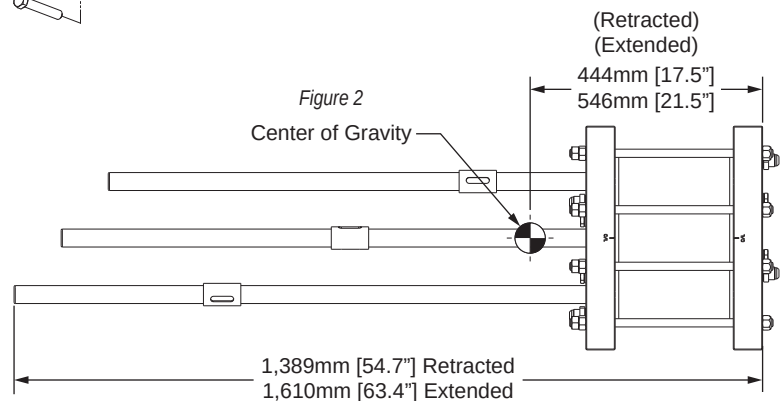

Figure 2
CAUTION! Fully support the Hydraulic Module prior to moving to the next step. The Hydraulic Module weighs approximately 80 kg [176 lbs] and is not stable when disconnected! See fig. 2 for approximate center of gravity of the Hydraulic Module.
- 6c. Slide slat out back of the trailer (fig. 2).
- 6d. Remove screws from Anti-lift block and pull up Easy Bearings off sub-deck (fig. 2).